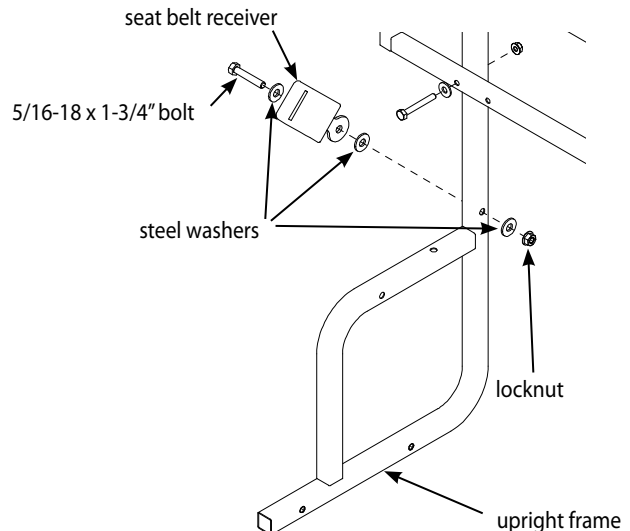

Figure 1B
3. Attach the two seat belt receivers (48798) to the two upright frames using (2) provided 5/16-18 x 1-3/4" hex head bolts, (6) 5/16" steel washers, and locknuts. **SEE FIGURE 1B.** Receivers should both be mounted on what would be the "outer" sides of the upright frames when unit is completely assembled.